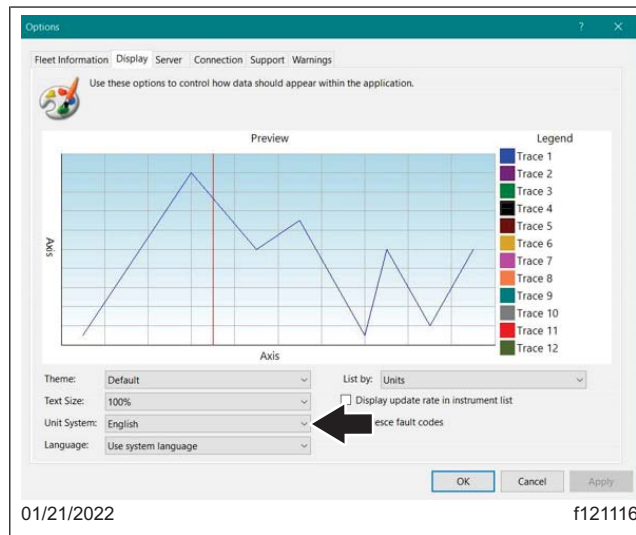

Fig. 4, Changing DiagnosticLink Units System, Step 3
3.4 In the Display, select 'Units System.' See Fig. 4.